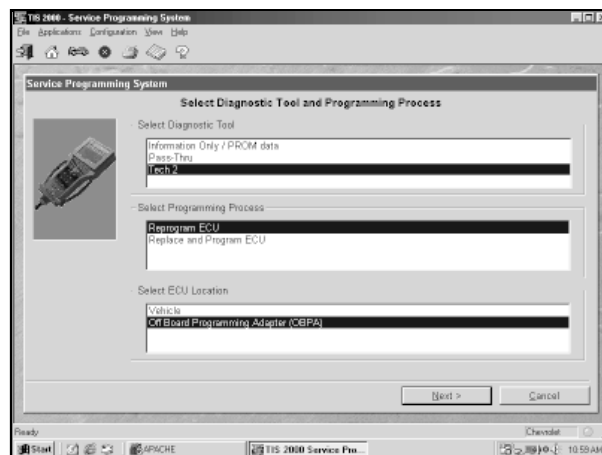

Figure I-31, Make SPS Selections
3. At the first screen, select Tech 2, Reprogram ECU, and Off-Board Programming Adapter as the ECU location (Figure I-31). Select Next.